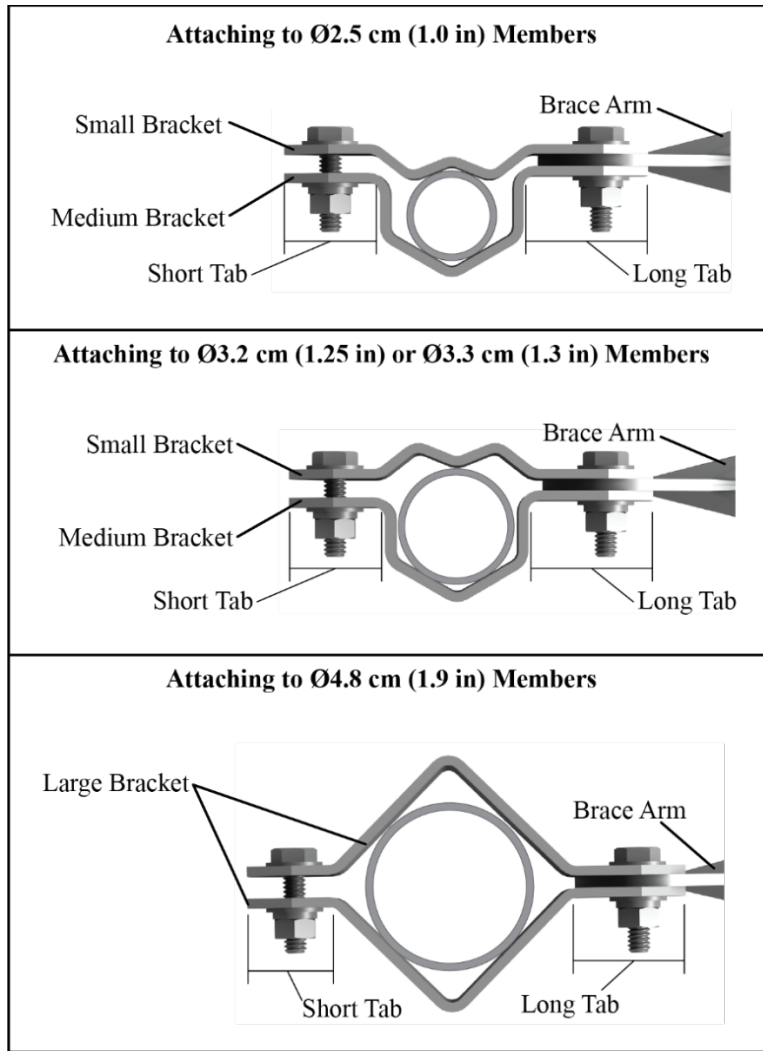

FIGURE 6-24. Bracket selection
1. Consult FIGURE 6-24 and TABLE 6-1 to determine which brackets are needed at either end of the brace to attach it to the crossarm and tripod mast or tower. The figure also indicates what orientation is needed when the small bracket is used.